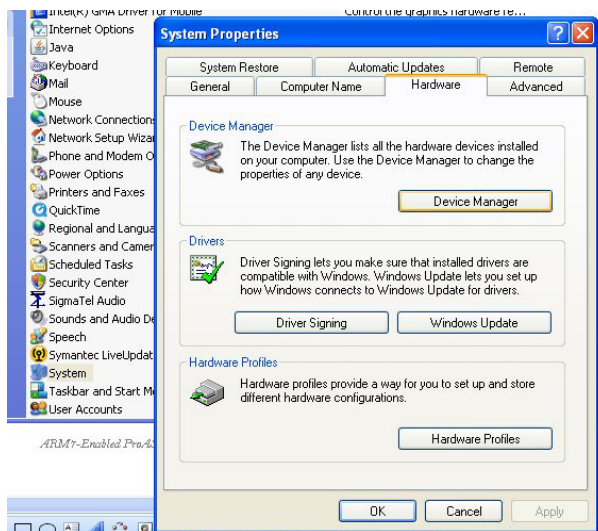

Figure 3.2- Running the Device Manager
1. On the PC, click the Start button and open up the “Device Manager” by navigating to “Control Panel -> System”. Then click the “Hardware” tab, then the “Device Manager” button as shown in figure 3.2.